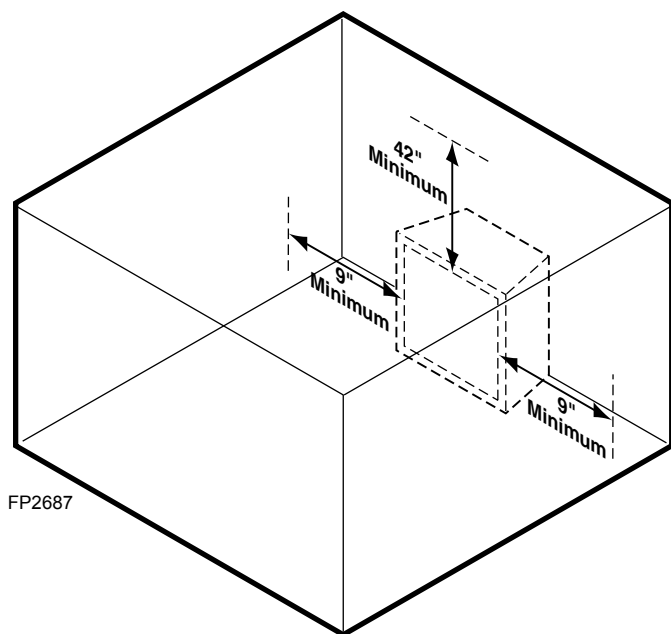

Figure 6.1 Clearance and Height Requirements
Ensure that minimum clearances shown in Figures 6.1 through 6.3 are maintained. Left and right clearances are determined when facing the front of the firebox.
1. **Sidewall clearances:** The clearance from the inside of the appliance to any combustible wall should not be less than 9". See Figure 6.1.
2. **Ceiling clearance:** The ceiling must be at least 42" from the top of the firebox opening. See Figure 6.1.